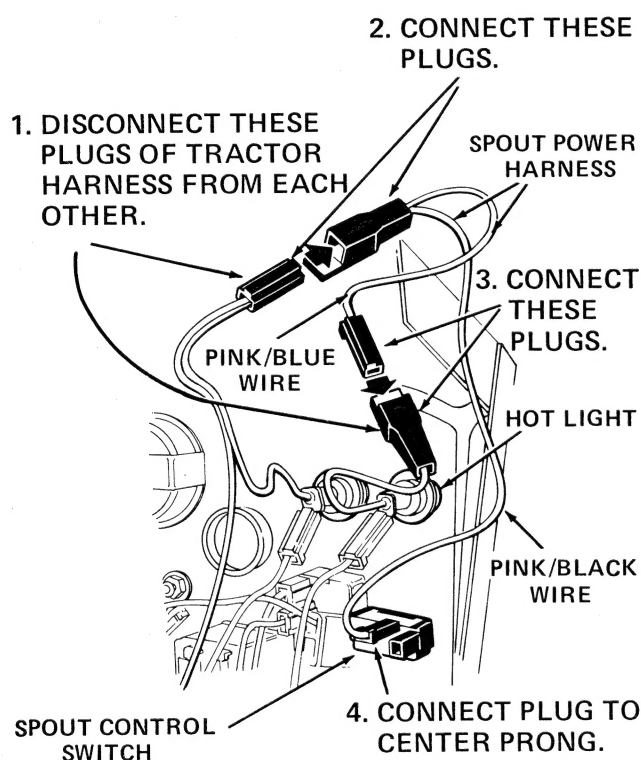

Figure 23. Install Spout Control Harness
7. Install spout control harness furnished with the snow thrower. See figure 23.